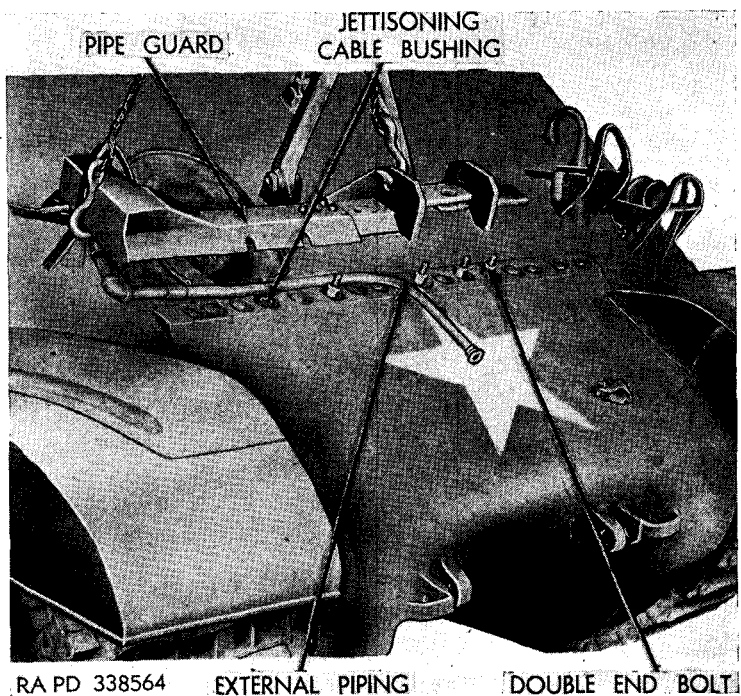
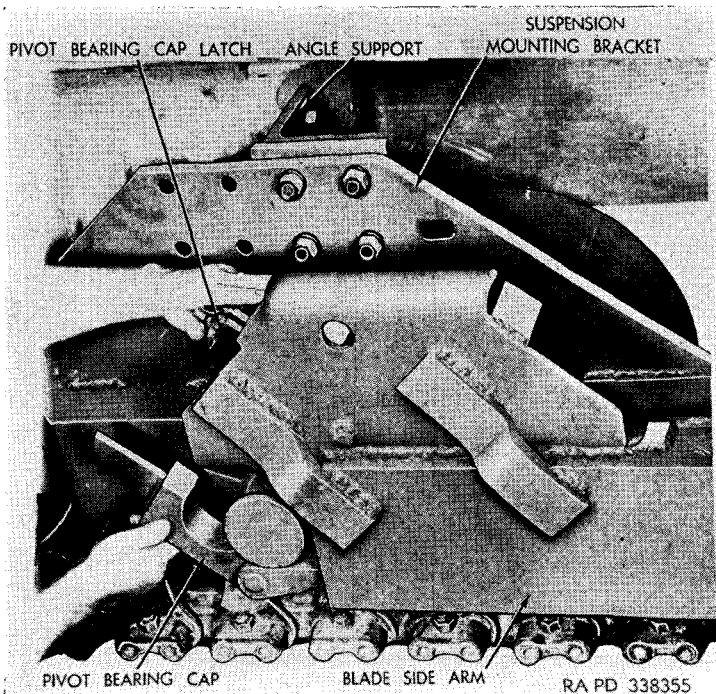

Figure 32. Installing pipe guard.
Figure 45. Connecting the blade to suspension mounting bracket pivot.
b. **INSTALL PIPE GUARDS.** Replace differential bolts with the double-end bolts (figs. 32 and 33); remove one bolt and nut and insert the jettisoning cable bushing. With an acetylene torch, cut out an opening for jettisoning cable in the pipe guard of bulldozer M1 in line with jettisoning cable bushing. Install pipe guards on the tank and secure with nuts and lock washers.
the sidearm ends in position on mounting bracket pivots and lock the latch on the pivot (fig. 45). After sidearm latches are secure, the end of the jettisoning cable must be threaded through the pipe guard opening and jettisoning cable bushing (fig. 32), and the end of cable must be attached loosely on the inside of the tank to release lever.
Attach a 2-pound TNT charge to the extreme end of each sidearm pivot bearing (fig. 45) and a 2-pound TNT charge in the tripod assembly directly beneath the jack connecting pin (fig. 44). Insert tetryl nonelectric caps with at least 5 feet of safety fuze in each charge. Ignite fuzes and take cover.